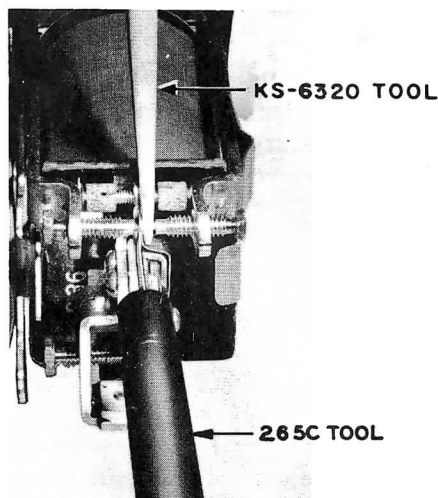

Fig. 6 - Cleaning Contacts, S36 Relay
- (b) Clean contacts with a 265C tool (contact burnisher holder) having a clean 266E tool (contact burnisher blade). Use a KS-6320 orange stick to hold contacts closed while cleaning. (See Fig. 6.)